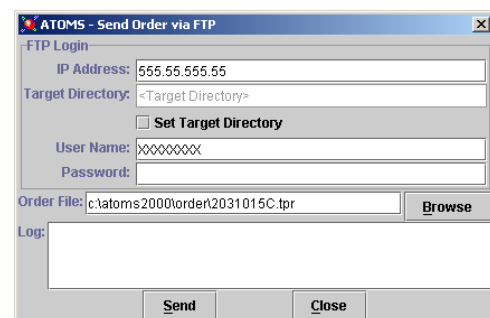

Figure 5-3. Send Order via FTP
- 5) If the **Build Order automatically opens Send Order** option is selected (☒) on the General tab of the Preferences window, the Send Order via FTP window appears (Figure 5-3), with the IP Address and User Name filled in from those fields on the Preferences window. The *TPR* file has been automatically named, and is displayed in the Order File text box.
- 1) From the splash screen, select **ORDER, Send Order**. The Send Order via FTP window appears, displaying the Server Address and Login Name (Figure 5-3) as set up on the Preferences window.